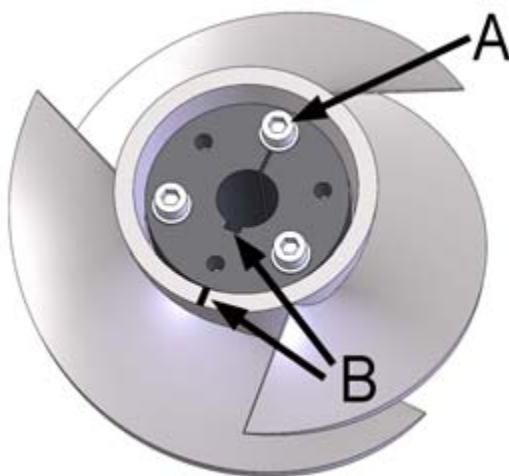

Figure 42. Attaching the mounting cone
1. Set the fastening cone to the impeller hub and tighten the three screws (figure 42, point A) so that they are finger-tight.
The mounting cone wedge groove must line up with the mark stamped on the impeller hub (figure 42, point B).